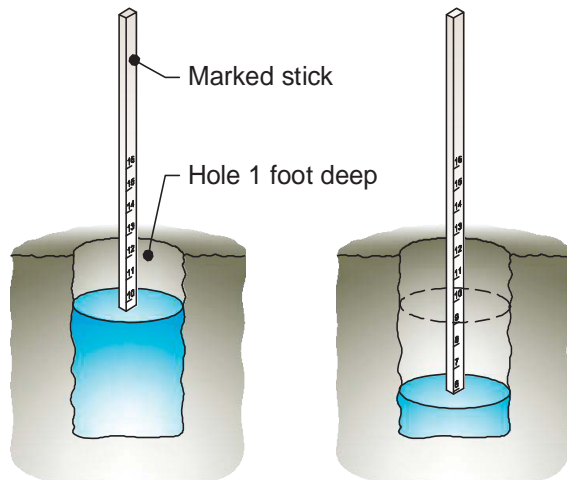

Figure 2. Drainage test.
1. Dig a hole, approximately 1 foot deep, in the area where you plan to irrigate with graywater. Insert a ruler or stick marked with inches into the hole (Figure 2).